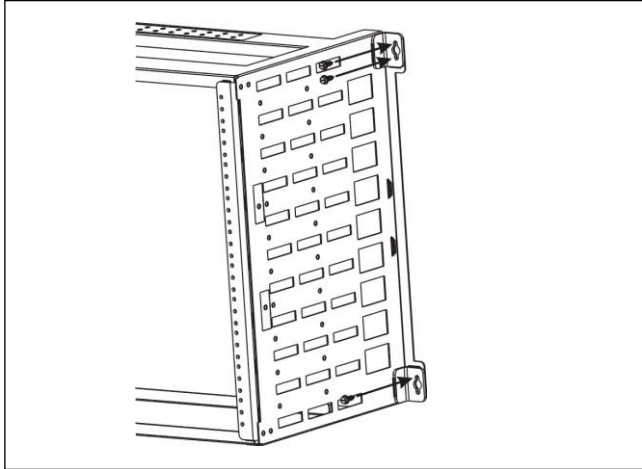

Figure 6. Mounting screw locations
- ① Select an appropriate location on a wall or backboard to install the mounting frame. Choose a mounting surface and hardware that can support the combined weight of the mounting assembly and equipment that is to be installed. Mounting to a 3/4" thick backboard with #12 x 1" screws is recommended. Maximum weight holding capacity of the WR-10U23 is 200 lbs.
- ② Determine the desired orientation of the ground lugs. The symmetrical design of the WR-10U23 frame allows it to be installed with the grounding holes facing upward or downward.
- ③ Tape the drill template to the wall ensuring it is level. The drill template provides information for multiple wall
mounted racks. Be sure to use the hole symbol \textcircled{D} . Drill six (6) 3/16" pilot holes. These holes mate with the mounting brackets located at the corners of the frame. The frame will be fastened with two screws in each of the upper brackets and one screw in each of the lower brackets, as shown in Figure 6.